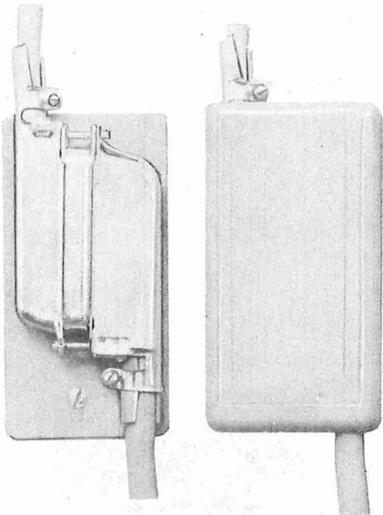

**Fig. 4—Main Components of Typical Installation of Data Set 208B-L1 Terminal With DAS 801A to Provide Automatic Calling**
**4.01** The data apparatus must be connected in conformance with BSPs covering the type of installation being performed. A typical installation is shown in Fig. 4. All cords and connecting hardware required for data apparatus installations are standard telephone equipment and are supplied with the apparatus, or are available. An assembly of common mounting and connecting hardware for data apparatus installation is shown in Fig. 5 (Sheets 1-3).